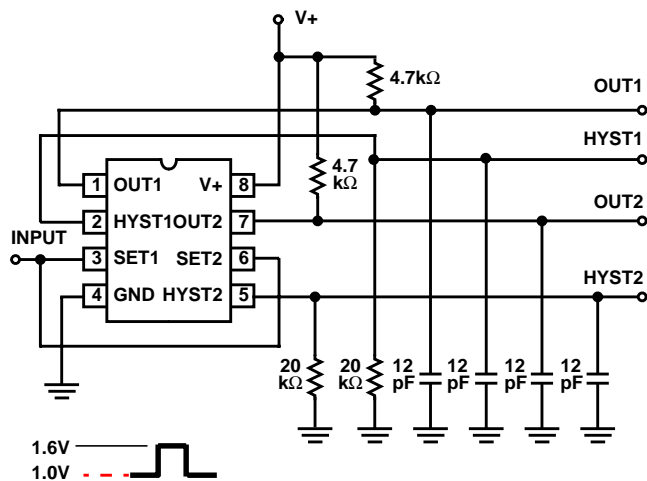

FIGURE 7. TEST CIRCUITS
**Electrical Specifications** The specifications below are applicable to both the ICL7665S and ICL7665SA. V+ = 5V, TA = 25°C, Test Circuit Figure 7. Unless Otherwise Specified
**Electrical Specifications** The specifications below are applicable to both the ICL7665S and ICL7665SA.  $V_+ = 5V$ ,  $T_A = 25^\circ C$ , Test Circuit Figure 7. Unless Otherwise Specified **(Continued)**